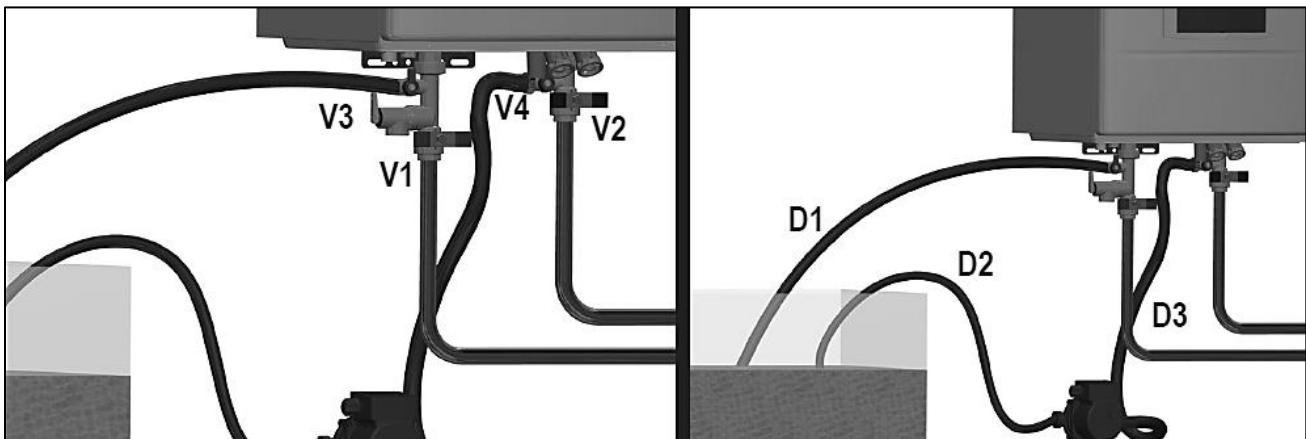

Figure 60 – Flushing the Water Heater
2. Close the shutoff valves on both hot water outlet and cold water inlet lines (V1 and V2). See Figure 60.
3. Connect one hose (D1, Figure 60) to the valve (V3) and place the free end in a bucket. Connect one of the hoses (D3) to the circulation pump outlet and the cold water inlet line to valve V4. Connect the other hose (D2) to the circulation pump inlet and place the free end in the bucket.